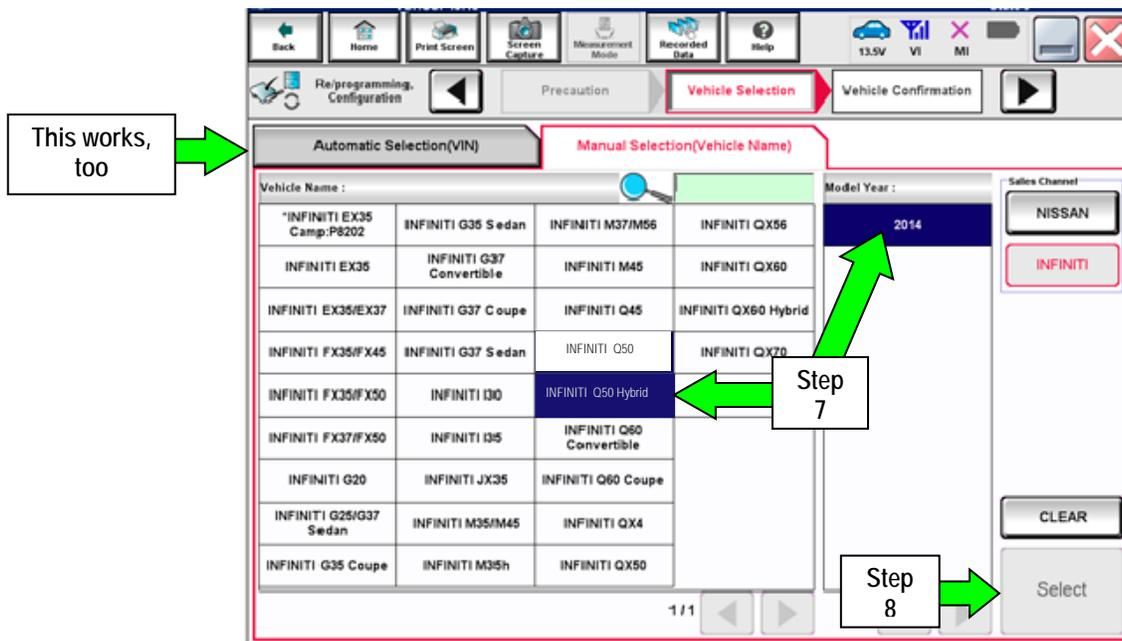

Figure A3
- If **Automatic Selection(VIN)** is selected, or the screen in Figure A3 does not display, skip to step 9.